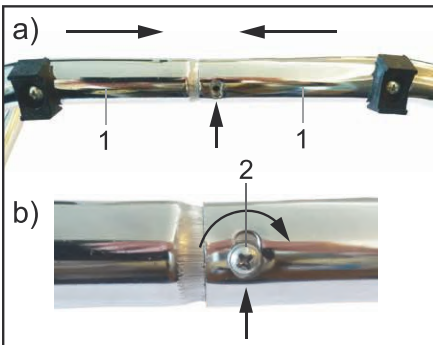

Fig.11: Mounting Carrier halves
- Plug the two carrier halves (1) together as shown in Fig. 11 a).
- Tighten it with the Phillips-head screw with lens head (2). See Fig. 11 b).